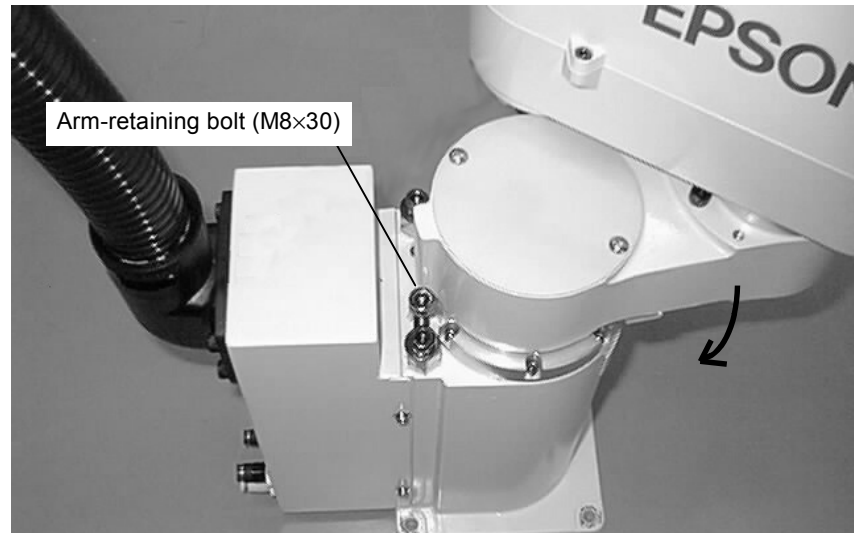

Figure 6. Arm-retaining bolt
- (3) Push Arm #1 slowly in the direction shown by the arrow in Figure 6. After moving the arm, tight the arm-retaining bolt (M8×30) located on the base unit the head of the bolt touches the surface of the base. This bolt must be fully tightened to prevent it from interfering with the motion of Arm #1, limiting the operation area of Joint #1.